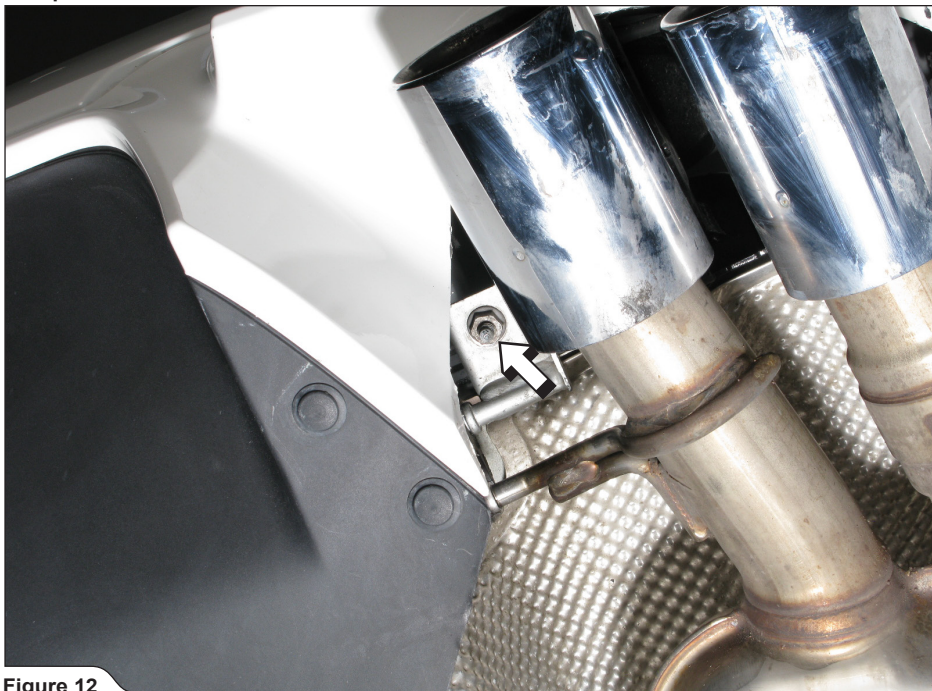

Figure 12
10. Support the stock exhaust system and unscrew all mufflers' brackets (**Figure 12, 13**).